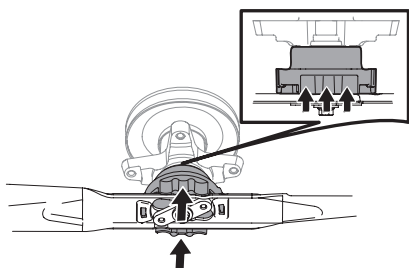

Figure 1
3. Push upward on the blade collar and hold it. See Figure 1.